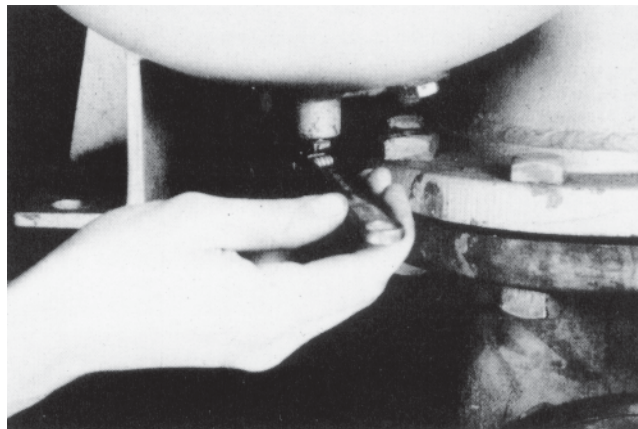

Figure 5 –Drain Plug Location
A 1/2" I.P.S. plug is provided at the bottom of the meter to permit draining the case, Figure 5. The 4" meter case holds 3 gallons of product. The 6" meter contains 5 gallons. The meter case should be vented to assure product removal.
1. Drain about 1 gallon of product from the meter, Figure 5, if it has not been drained.